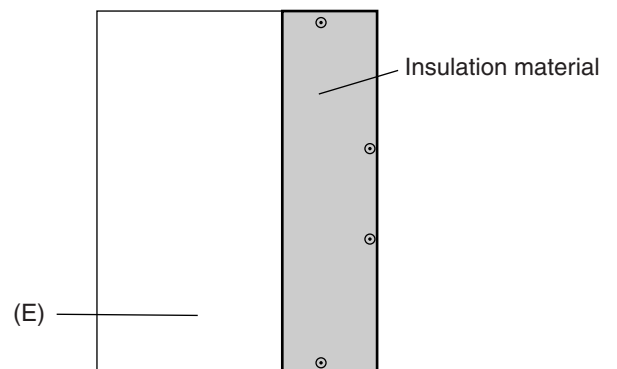

Fig. 6
- To avoid dew condensation, use insulated screws in the places marked with circles in Figure 6.